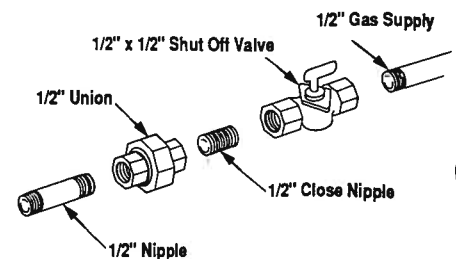

Figure 38
Step 7. Rigid Pipe Connection Procedure - Extend previously installed 1/2" NPT gas supply pipe to the gas control valve. Figures 38 and 39 illustrates the sequence of connection. Secure all fittings tightly using a wrench and pipe joint compound where necessary.